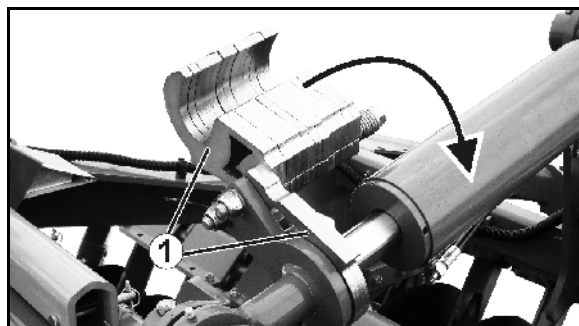

Fig. 71
8. Adjust the working depth by swivelling in the distance elements (Fig. 71/1).